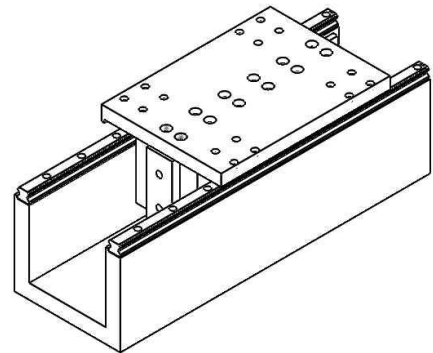

Figure5.1-19 Forcer base installation
- ▶ Install the force base onto the base sliding block. (refer to Figure5.1-19)